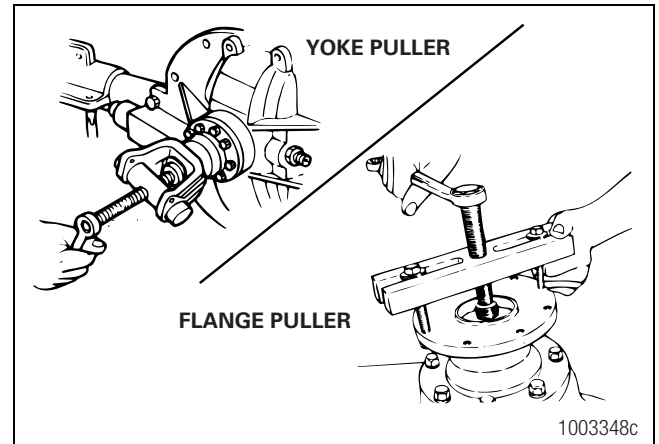

Figure 3.23
- If the yoke or flange is tight on the pinion: Use a puller for removal. Figure 3.23.